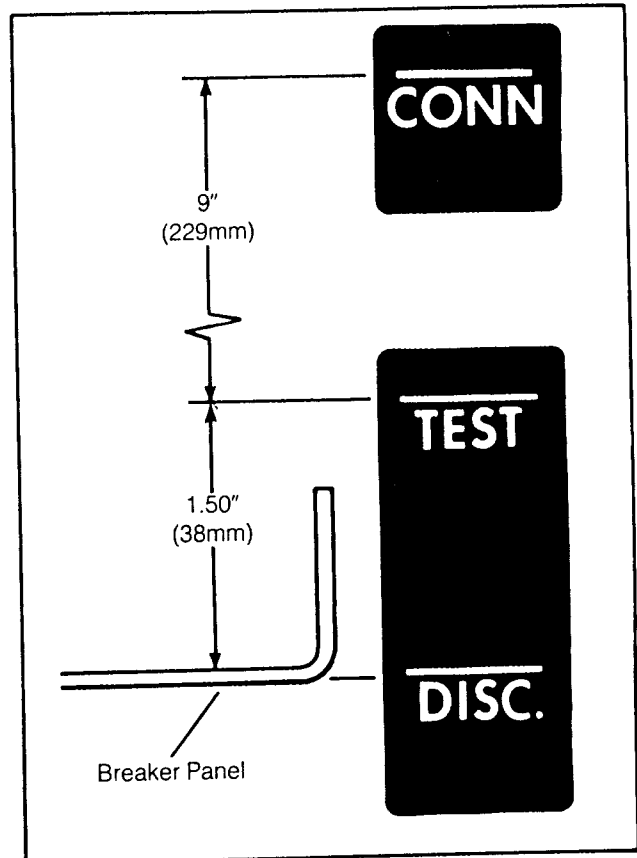

Figure 74. Circuit Breaker Position Indicator
4. Move breaker into disconnect position. See Racking Instruction (page 75, 76). The funnel-shaped guide rails on the cubicle floor and a mating guide bar on the underside of the breaker will align the breaker with the cubicle on entry. When the disconnect position is reached, the interlock plunger on the circuit breaker will drop into the guide rail notch and the lower right hand edge of the breaker panel will be in line with the word DISC. on the position indicating label, Figure 74. The disconnect position notch in the guide rail is shallow, holding the breaker trip-free and preventing it from accidentally rolling into the secondary disconnect contacts of the test position. In this position, check the following items: